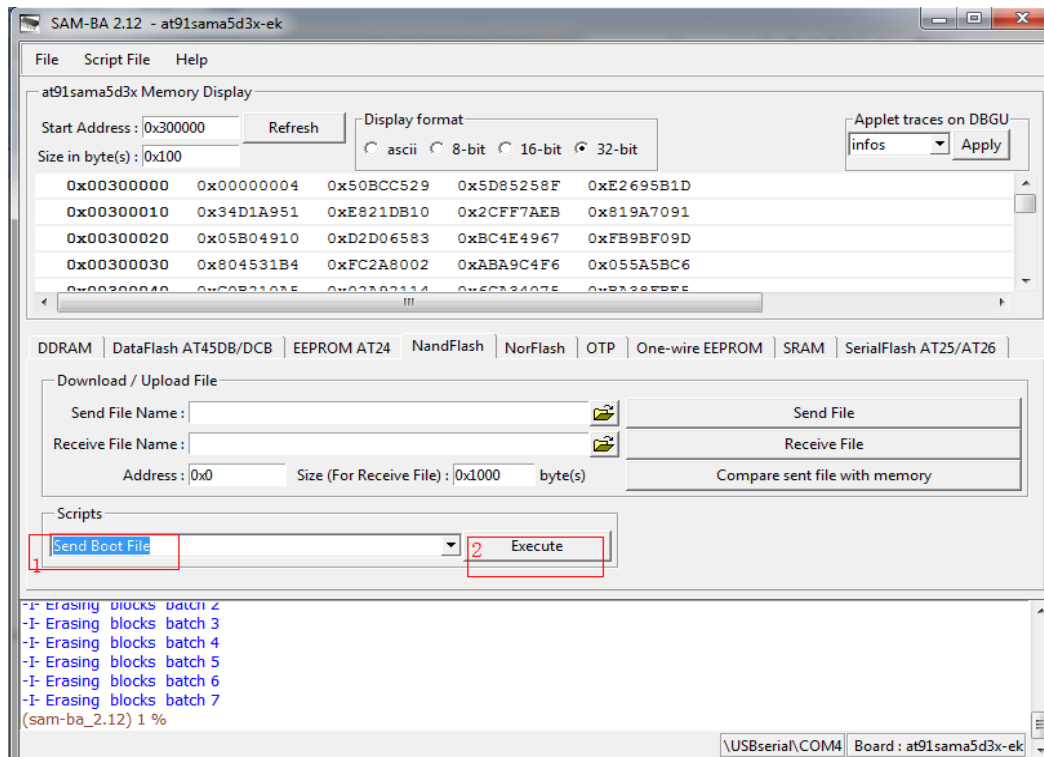

Figure 3-10
- ④ Download [ boot. bin] refer to figure 3-10 and 3-11: